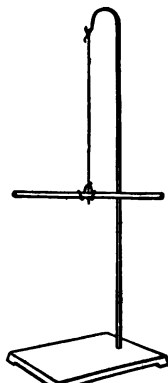

FIG. 54
**262.** Suspend a glass rod balanced by a silk thread, as in Fig. 54. Stroke one end of it with a silk cloth a few times; then, the rod being still, present very near to it, but not touching, that part of the silk with which it was rubbed. What happens? Now charge another glass rod likewise and bring it very near the other (suspended). Compare the result with that just recorded. Would these results seem to show that there is a difference between the charge developed upon the two bodies that rub each other?